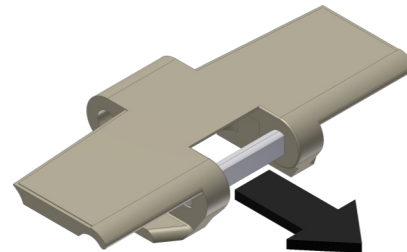

Figure 1
- Verify chain direction is correct (See Figure 1)
- If intermixing chain manufacturers (Habasit/Rexnord), always match pin to chain as shown (See Figure 1)